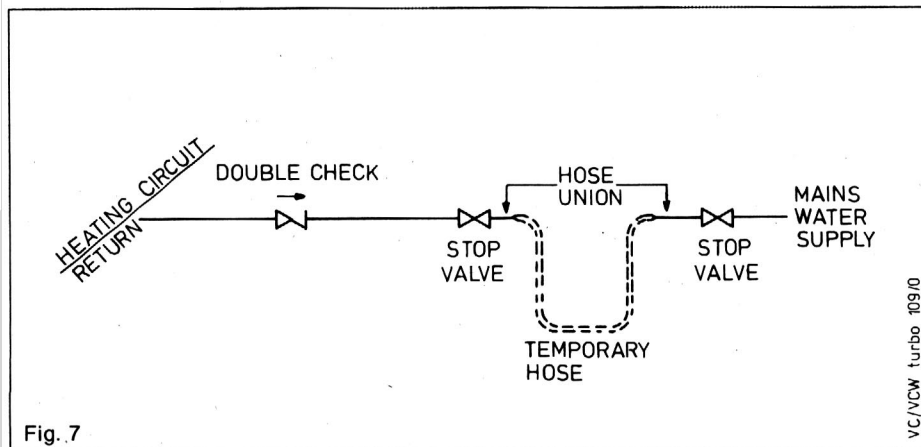

Fig. 7
5.12 Filling and make up (Fig. 7)